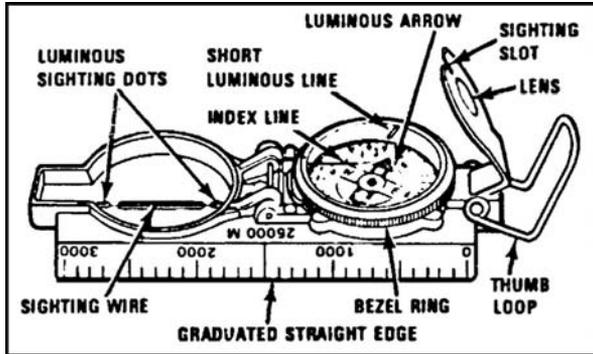

Figure 071-329-1003-1. Lensatic compass
1. Read your compass (figure 071-329-1003-1).